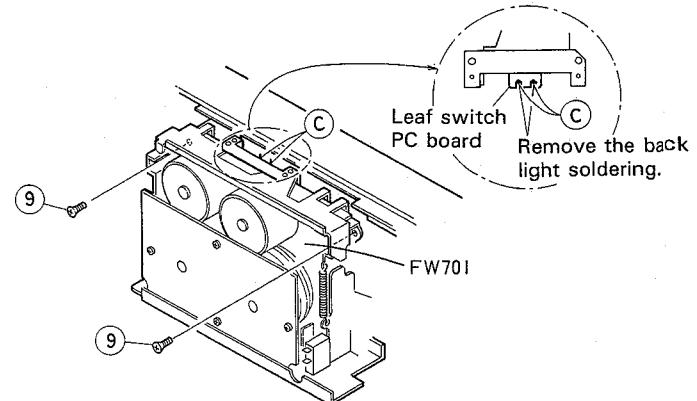

Fig. 2-4
(see Figures 2-4 and 2-5).
5. Remove the two screws ⑨ retaining the mechanism on the front panel assembly (see Figure 2-4).
7. Remove the cassette back light soldering ⑩ on the center of the upper surface of the mechanism (Figure 2-4).
5. Remove the two screws ⑨ retaining the mechanism assembly to the front panel assembly (see Figure 2-4).